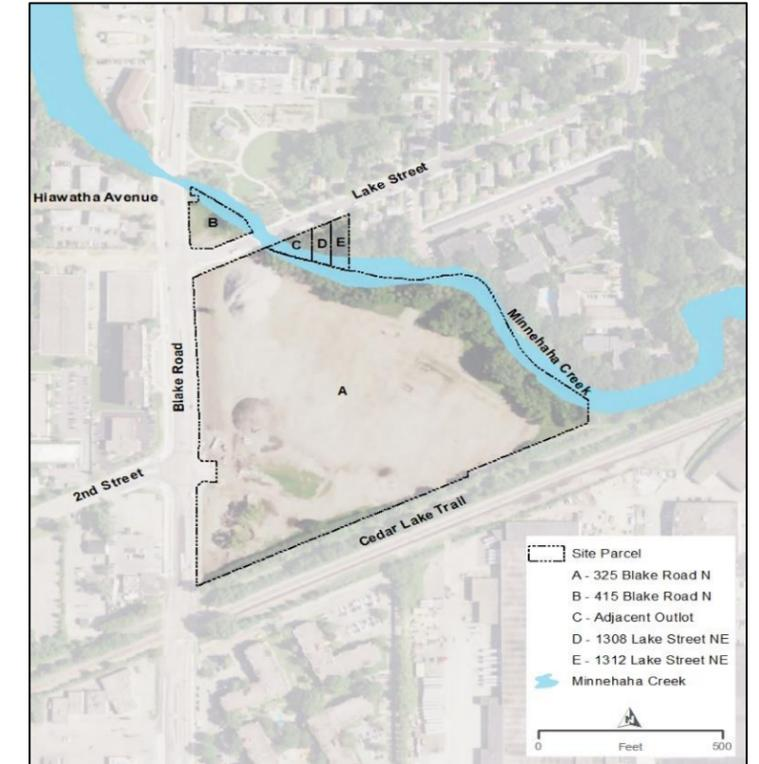
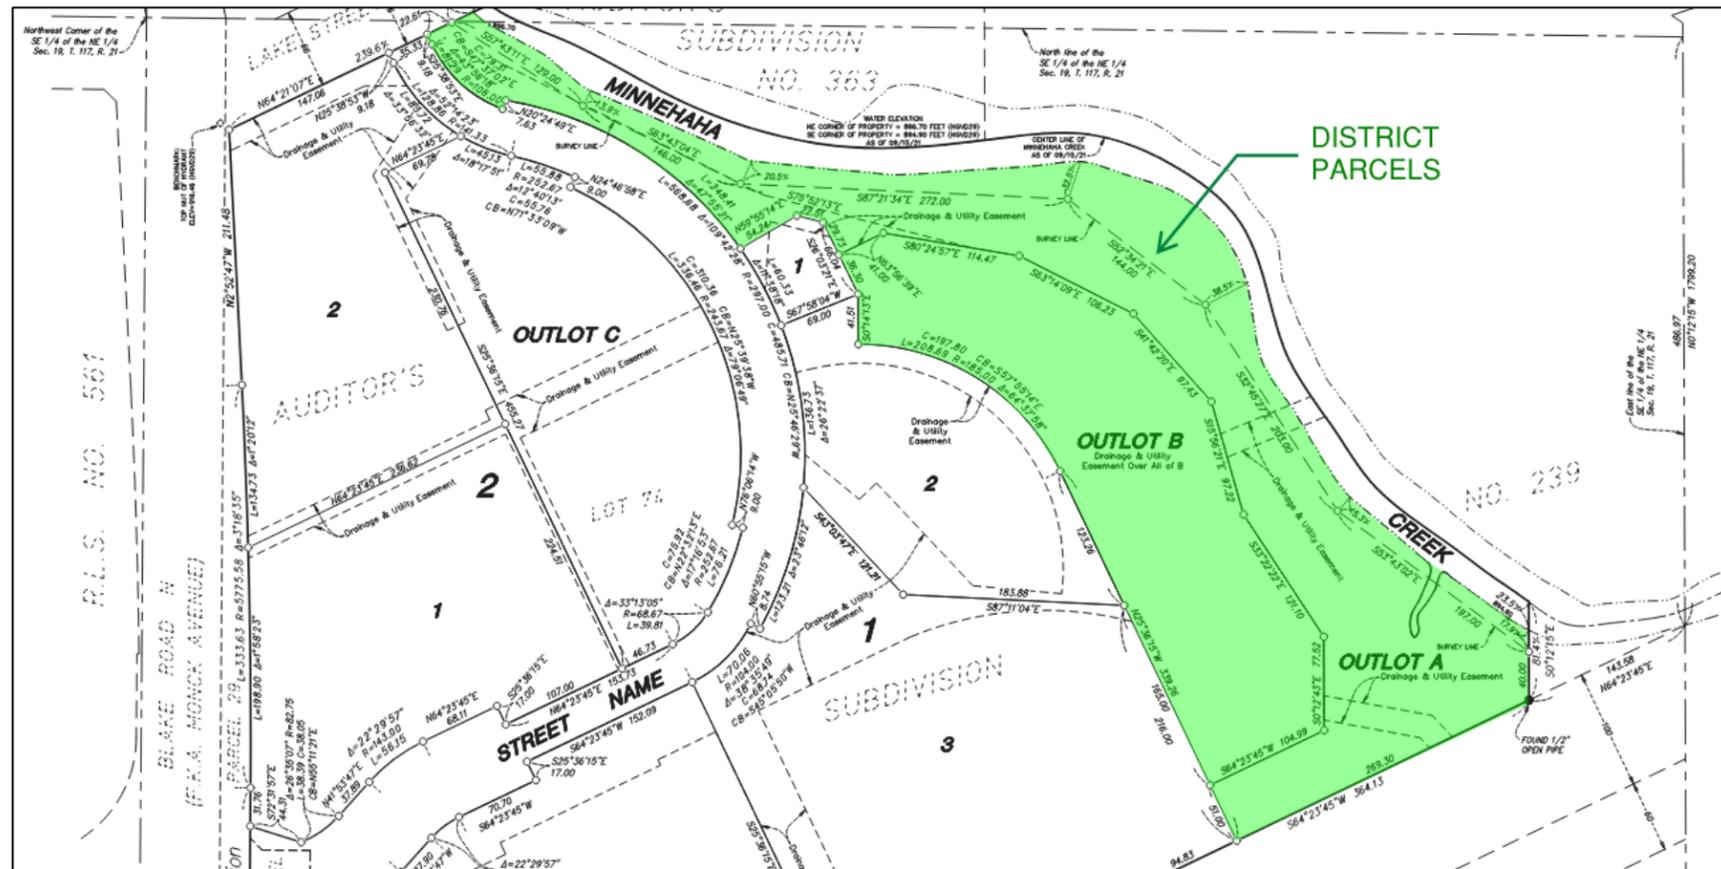

Figure 1.1: Site Parcels.
Figure 1.2: A Subdivision.
- Figure 1.1: Site Parcels
The 325 Blake Road Regional Stormwater and Greenway Project (the project) consists of the restoration and water-centric redevelopment of a site located adjacent to Minnehaha Creek, premised on a vision of Balanced Urban Ecology. The site is comprised of 4 parcels and one outlet that total 17.81 acres (see Figure 1.1: Site Parcels), with the primary parcel (A) being subdivided between the Developer (Alatus) and Minnehaha Creek Watershed District (the District), (see Figure 1.2: A Subdivision). The project is situated in the lower Minnehaha Creek watershed, approximately 7.3 river miles downstream of Gray's Bay dam on Lake Minnetonka where the headwaters of Minnehaha Creek are formed, and approximately 11.5 river miles upstream of Lake Hiawatha. Minnehaha Creek's confluence with the Mississippi River is located roughly 14 river miles downstream of the project site.